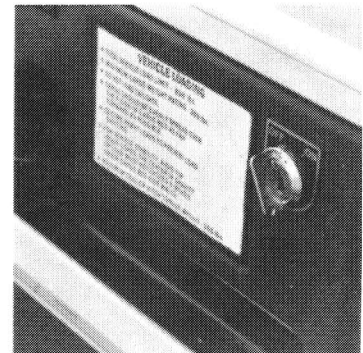

Figure 2
Key Switch - The key switch is mounted on the dash to the right of the steering column (See Figure 2). It has two (2) positions, "On" and "Off" which are clearly labeled. Remove key in the "Off" position only.